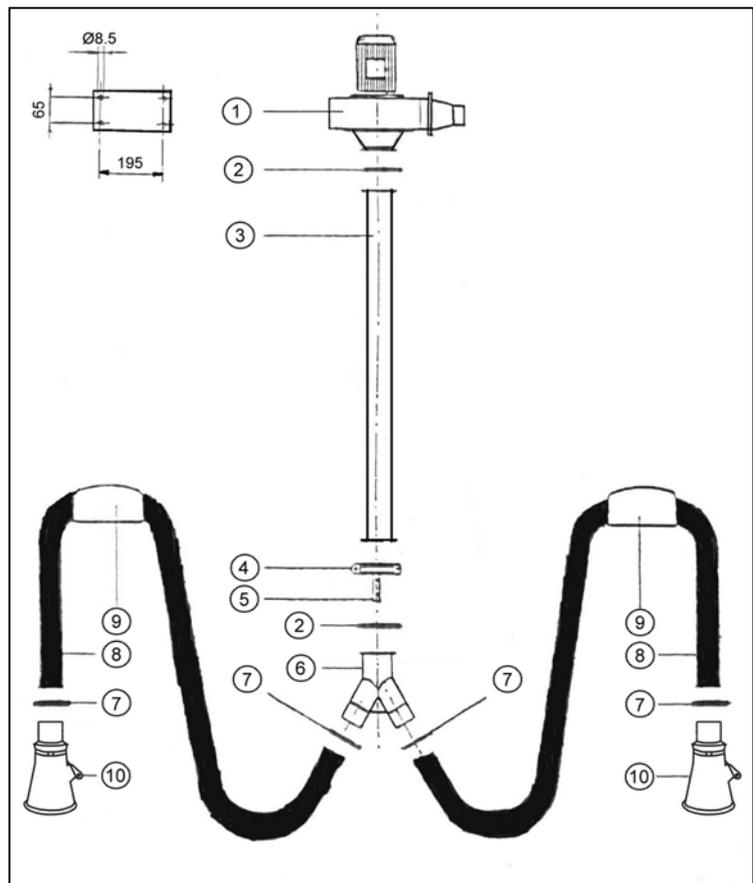

fig. 2 – GAZPAR M DOUBLE
**Gazpar M Double 75/5 et 100/5** (cf figure 2)